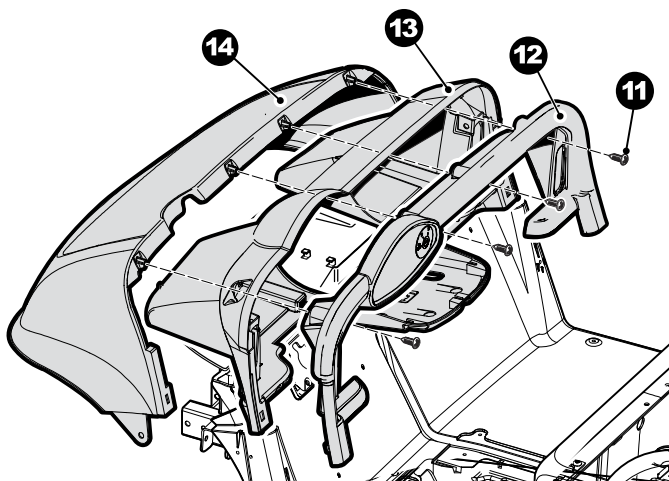

Figure 4
11. Remove the four Torx screws (11) securing the trim panel (12) to the instrument panel (13) and cowl (14). See figure 4.
12. Locate the tab in the fender well area, under the cowl (14). The tab extends from the instrument panel (13) through a slot in the cowl, squeeze the legs of the tab together and push to the back of the vehicle while pulling forward on the cowl. Repeat for the other side — **at this point the cowl is completely loose** — remove the cowl. See figure 4.
13. Loosen the trim panel (12) by pulling it away from the instrument panel (13) along the upper edge then grip the ball holder with both hands and pull away from the instrument panel (13); move to the other side of the vehicle and grip the ball holder on that side with both hands and pull it away from the instrument panel (13). See figure 4.
14. Disconnect wires to the instruments located in the trim panel then remove the trim panel (12) and set it aside. See figure 4.